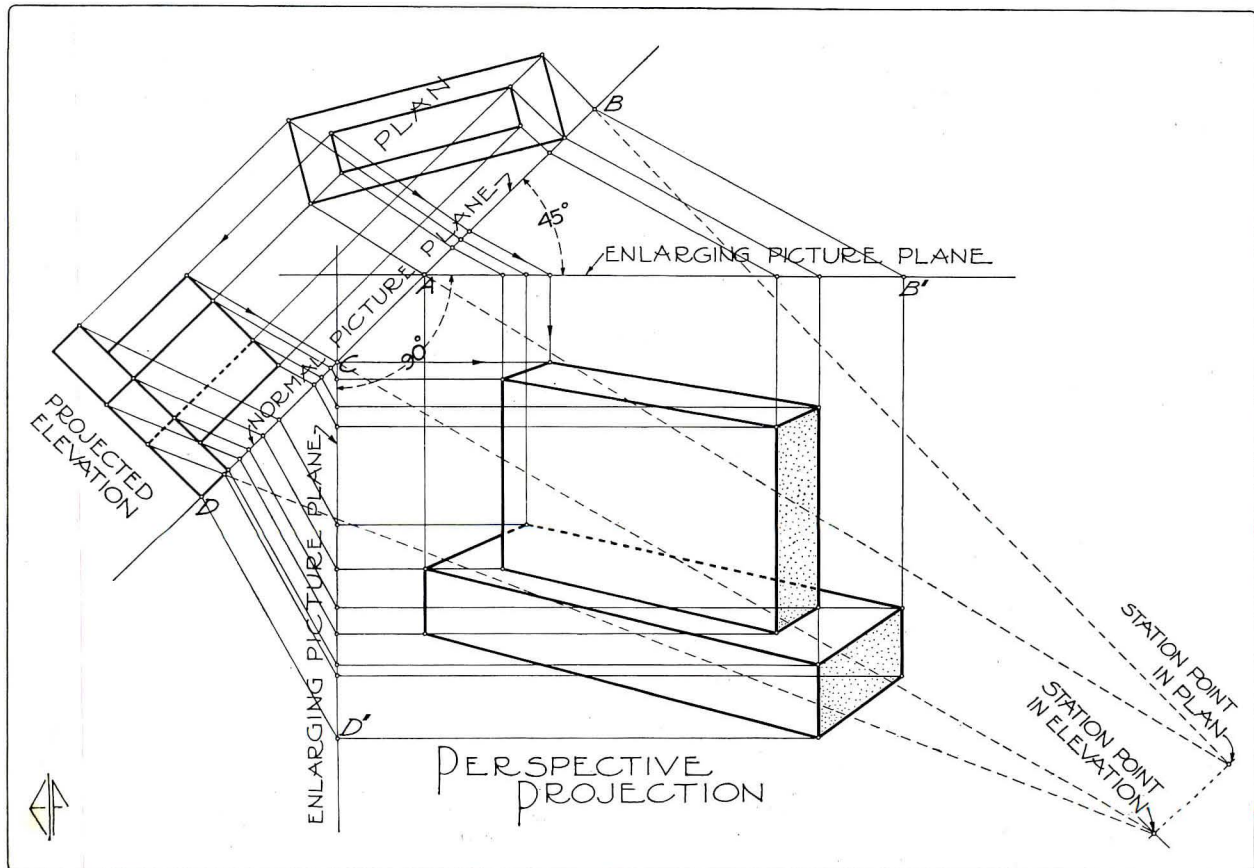

FIGURE 5
B. C. H., down in Alabama, wants to know some "trick" of geometry whereby a correct perspective can be laid out at $1\frac{1}{2}$ " scale, the station point and both vanishing-points being "over in the next county." He submits a problem which, if worked out in the ordinary way, would require a board-space measuring 7'-0" by 3'-10". At Figure 5, herewith, I submit a solution of the same problem worked out on a board but 24" by 16" in size.